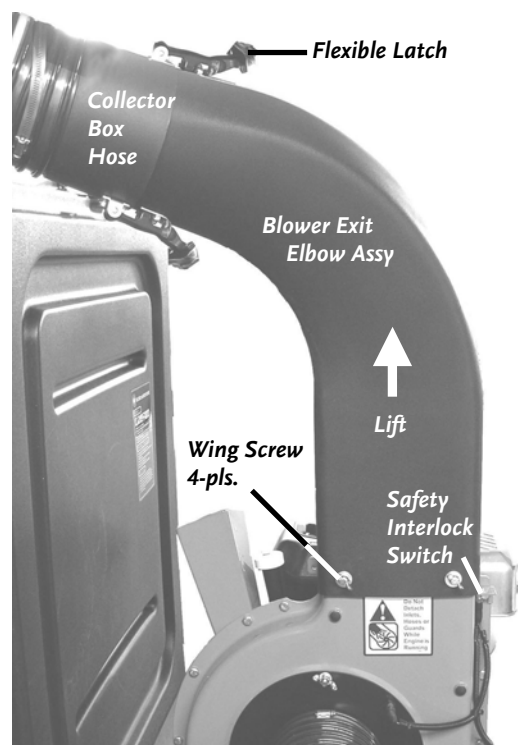

Figure 34
1. Disconnect the Blower Exit Elbow to the Collector Box Hose by releasing the two flexible latches (**Figure 34**) and separate the hose.
2. Remove the four (4) Wing Screws from the Blower Exit Elbow Assembly (**Figure 34**).
3. Lift the Blower Exit Elbow Assembly from the top of the Blower and install a new assembly in the reverse order (**Figure 34**).
1. Disconnect the Blower Exit Elbow Assembly from the Collector Box Hose (**Figure 34**).
1. Disconnect Collector Box Hose from the Blower Exit Elbow (**Figure 34** on page 40).